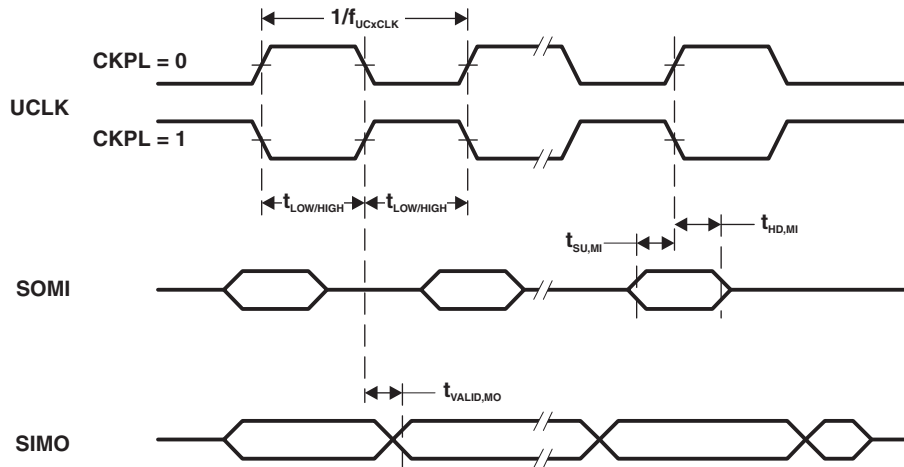
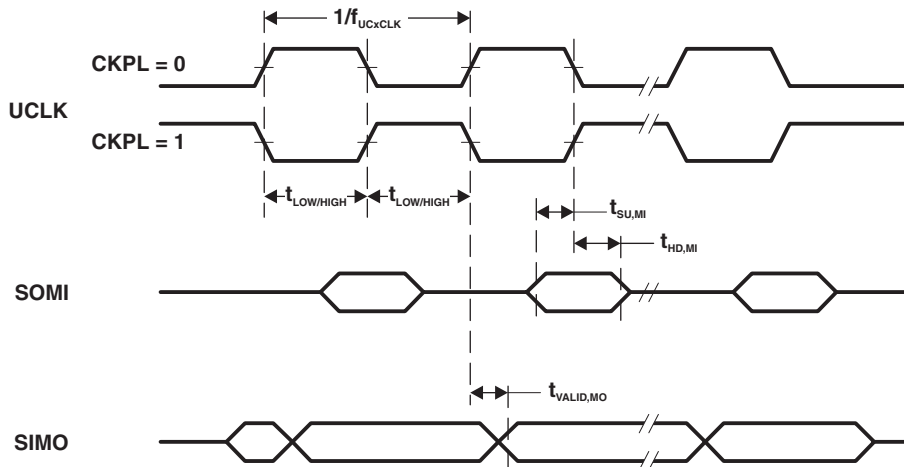

Figure 5-23. SPI Master Mode, CKPH = 0
Figure 5-24. SPI Master Mode, CKPH = 1
over recommended ranges of supply voltage and operating free-air temperature (unless otherwise noted)⁽¹⁾ (see Figure 5-23 and Figure 5-24)
- (1) $f_{UCxCLK} = 1/2t_{LO/HI}$ with $t_{LO/HI} \geq \max(t_{VALID,MO(USCI)} + t_{SU,SI(Slave)}, t_{SU,MI(USCI)} + t_{VALID,SO(Slave)})$. For the slave parameters $t_{SU,SI(Slave)}$ and $t_{VALID,SO(Slave)}$, see the SPI parameters of the attached slave.
- (2) Specifies the time to drive the next valid data to the SIMO output after the output changing UCLK clock edge. See the timing diagrams in Figure 5-23 and Figure 5-24.
- (3) Specifies how long data on the SIMO output is valid after the output changing UCLK clock edge. Negative values indicate that the data on the SIMO output can become invalid before the output changing clock edge observed on UCLK. See the timing diagrams in Figure 5-23 and Figure 5-24.